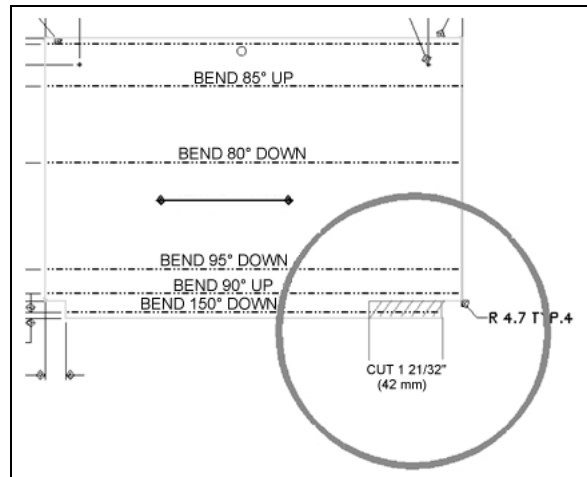

FIGURE 19
4. Slide stainless steel duct out to cut a small part of 1 21/32" (42 mm), slide it back to be 1 21/32" more backwards (refer to figure 19)